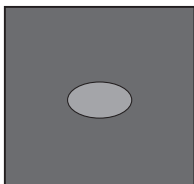

Figure 10.3
5. Move the safe aside to clear the marked spot for drilling (Figure 10.3).